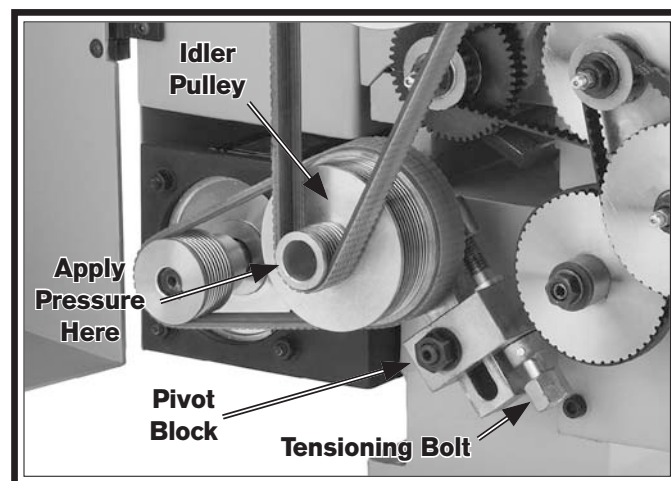

Figure 49. Drive belt tensioning controls.
3. Loosen the pivot block hex nut (see **Figure 49**). This will allow the tensioning bolt to change the position of the idler pulley in the next step.
6. Apply moderate pressure on the idler pulley toward the front of the lathe (see **Figure 49**) while tightening the tensioning bolt clockwise.